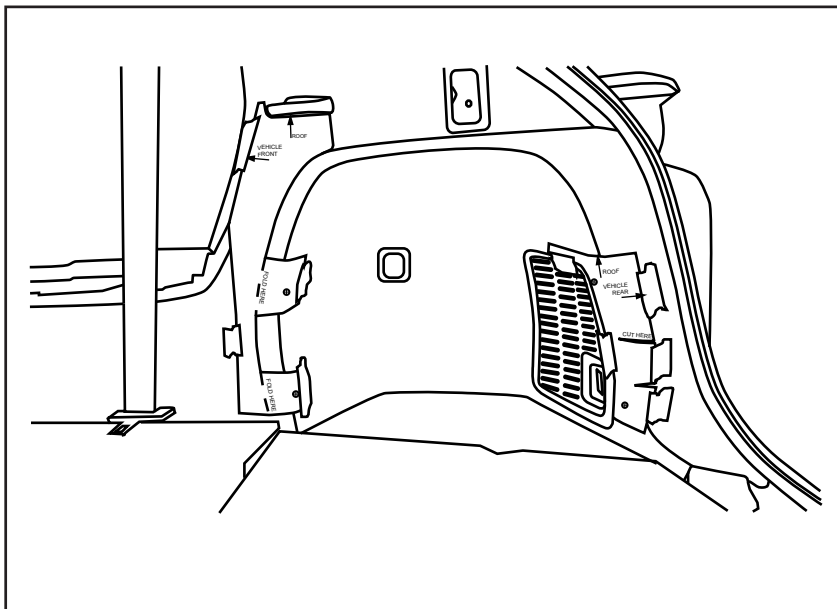

Fig. 3
4. Using the provided template labeled as "RIGHT SIDE", place and fold the template in place using masking tape (Fig. 3). Note: Before marking ensure the hole locations are located inboard of the edge of the side compartments. Holes should not be located on the main wall of the side trunk panel.